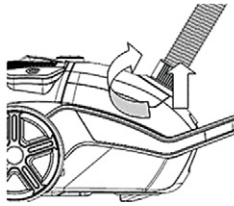

Fig 2
2. **Remove the hose accessories:** Press the adaptors at both side of the hose end and then pull the hose accessories. (Fig 2)